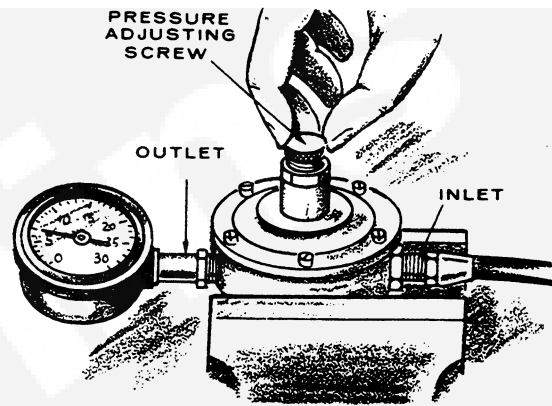

FIGURE 26. VAPORIZER ADJUSTMENT
1. Place the vaporizer in a vise or other suitable clamp. Attach an air hose from an air supply of approximately 75 psi to the inlet (Figure 26).